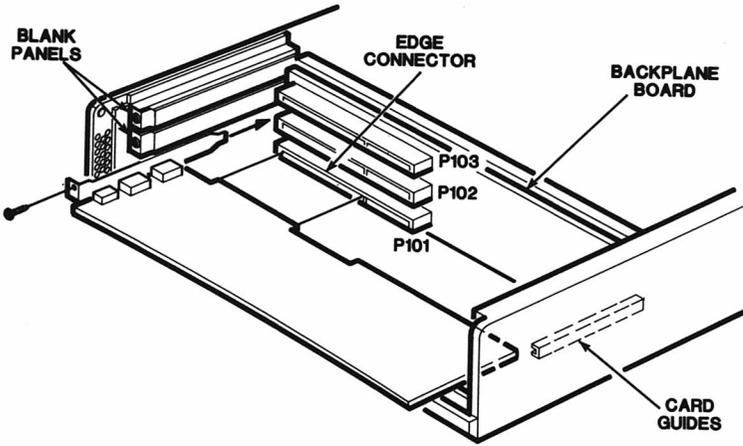

Figure 2-6. Circuit Card Installation
3. Refer to Figure 2-6 and remove the blank panel that corresponds to the slot you plan to use. You will no longer need the blank panel, but save the screw that secures it.